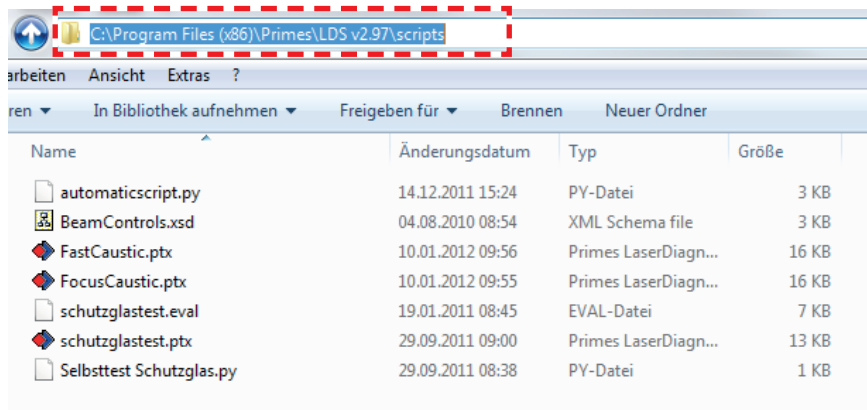

Fig. 21.23: Script directory
The script controlled LDS offers the possibility to evaluate several beam parameters to qualify the measurement. The evaluation is controlled by files with the extension “\*.eval”. One of these files is installed with the LDS in the script folder (see Fig. 21.23).
6. Copy the file **BeamControls.xsd** in the explorer from the script path (Fig. 21.23 on page 59) to the save directory (BCS\_Saves).